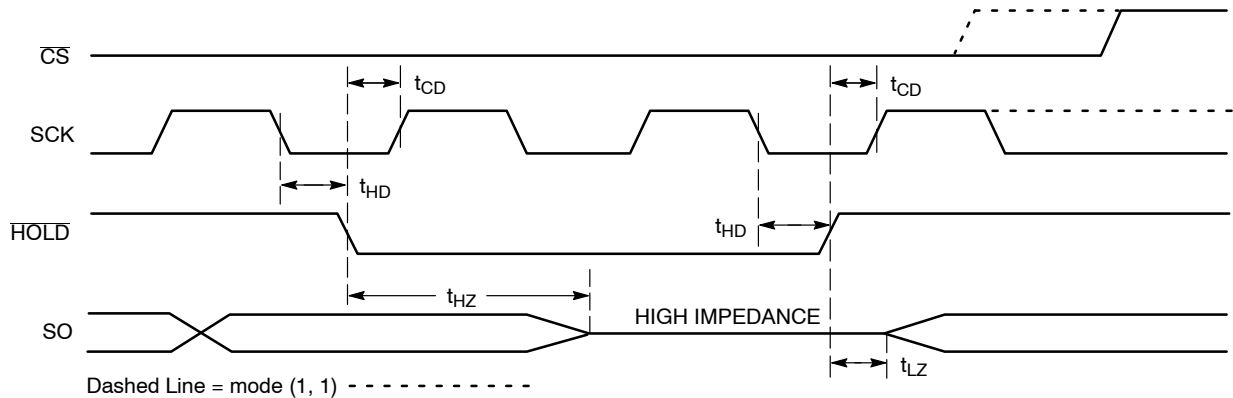

Figure 11. $\overline{\text{HOLD}}$ Timing
The $\overline{\text{HOLD}}$ input can be used to pause communication between host and NV25080/160. To pause, $\overline{\text{HOLD}}$ must be taken low while SCK is low (Figure 11). During the hold condition the device must remain selected ($\overline{\text{CS}}$ low). During the pause, the data output pin (SO) is tri-stated (high impedance) and SI transitions are ignored. To resume communication, $\overline{\text{HOLD}}$ must be taken high while SCK is low.